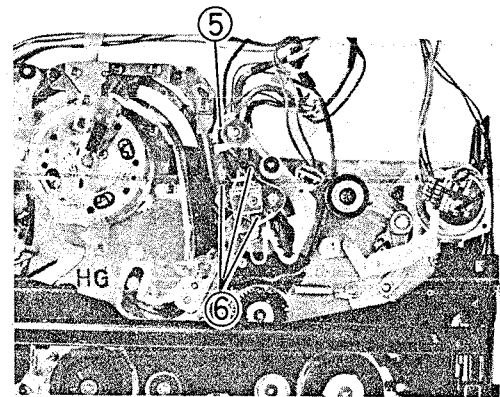

Fig. 2-57 Audio/Control (A/C) Head Removal
5. Release wires from wire holder. (See Fig. 2-57)
6. Remove three (3) screws holding the A/C head.